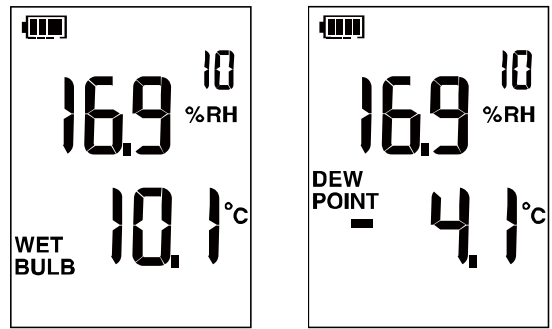

Figure 5. Wet bulb and dew point temperature
- **Wet bulb temperature**,  $\text{WET}_{\text{BULB}}$  shows on the screen, as shown on the left in Figure 5.
- **Dew point temperature**,  $\text{DEW}_{\text{POINT}}$  shows on the screen, as shown on the right in Figure 5.